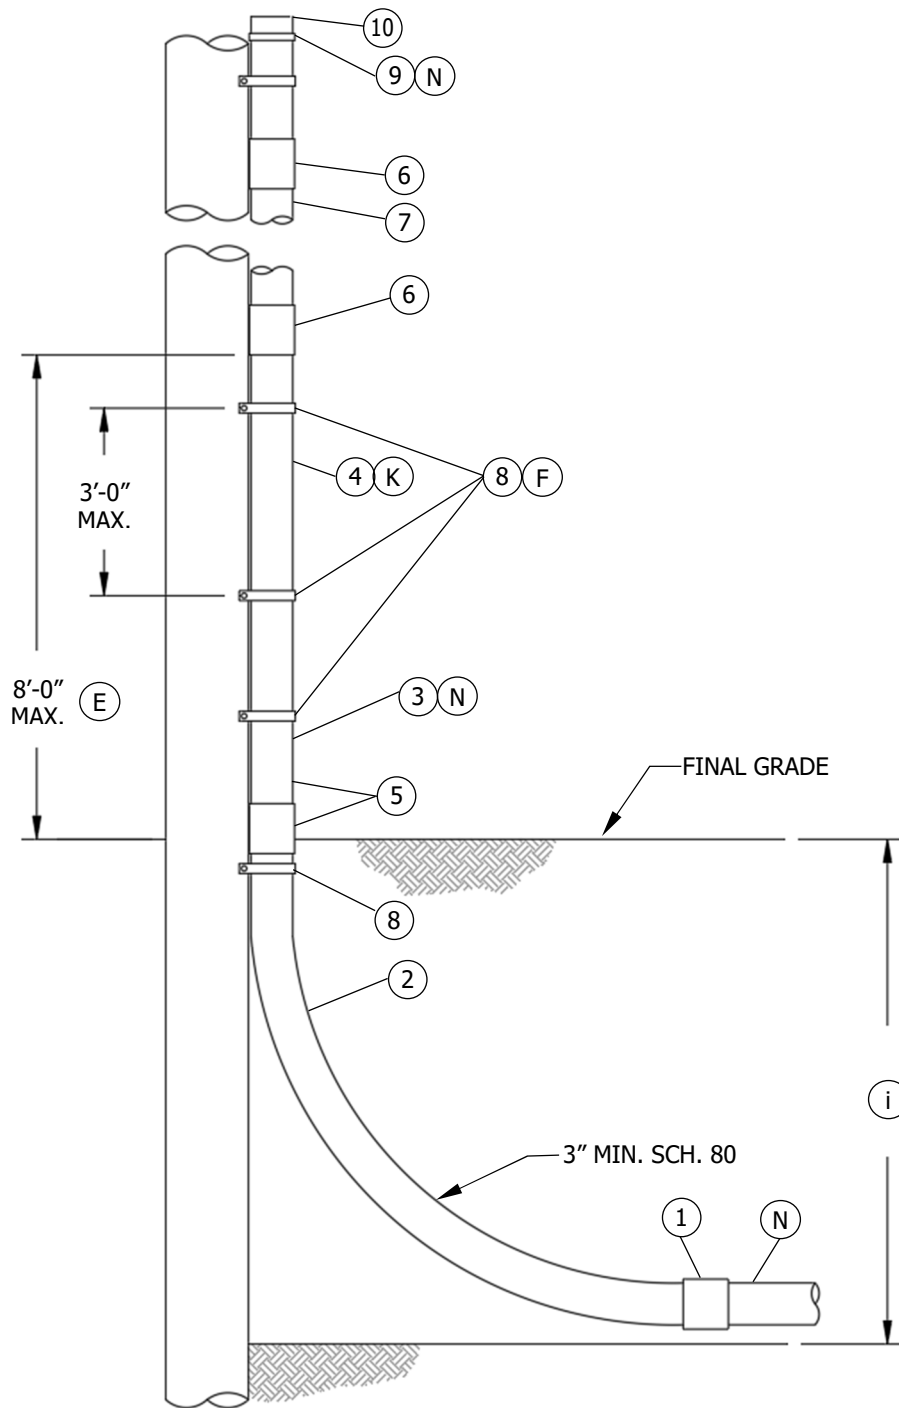

FIGURE 5
- (K) USE FIGURE 5 ALTERNATE CONSTRUCTION FOR A SINGLE RISER WHEN:
1. FIELD CONDITIONS DO NOT ALLOW ROOM FOR LADDER ARM BRACKETS (I.E., CONDUIT WOULD EXTEND INTO THE STREET, SIDEWALK, DRIVEWAY, ETC.). THIS INSTALLATION WOULD BE LIMITED TO ONE SDG&E RISER, UP TO 3 INCHES. (NO OTHER RISER(S) LARGER THAN 3 INCHES WOULD BE ON THE POLE.) ONE HALF OF THE POLE MUST REMAIN CLEAR FOR CLIMBING SPACE, AND G.O. 95 REQUIREMENTS MUST BE FOLLOWED.
- (L) ONE RISER ON THE POLE 3 INCHES MAXIMUM AND ONE RISER ON THE BACK SIDE OF THE LADDER ARM BRACKET 3 INCHES MAXIMUM ARE PERMITTED BACK-TO-BACK. A MAXIMUM OF TWO 4-INCH COMMUNICATIONS RISERS ARE PERMITTED ON THE BACK SIDE OF A LADDER ARM ASSEMBLY. THE ADJACENT POLE QUADRANT MUST BE VACANT TO INSTALL ANY 4-INCH RISER ON THE BACK OF THE LADDER ARM BRACKET AND MUST REMAIN VACANT AFTER INSTALLATION.
- (M) CONCRETE ENCASEMENT IS REQUIRED AROUND THE ELBOW(S) FOR 5-INCH PRIMARY CONDUIT(S).